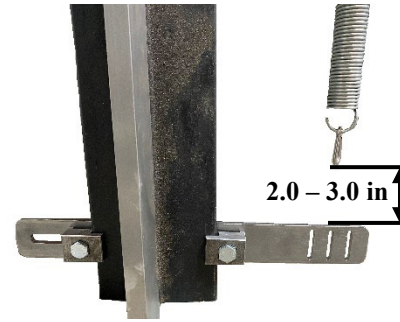

Figure 15: Distance from Bottom Carabiner of Tension Spring to Top of the Rail Fastening Plate
- a. Choose a hole such that the distance between the bottom of the spring's bottom carabiner and the top of the Rail Fastening Plate is between 2.0 – 3.0 inches when the spring is hanging and unstretched. See Figure 15